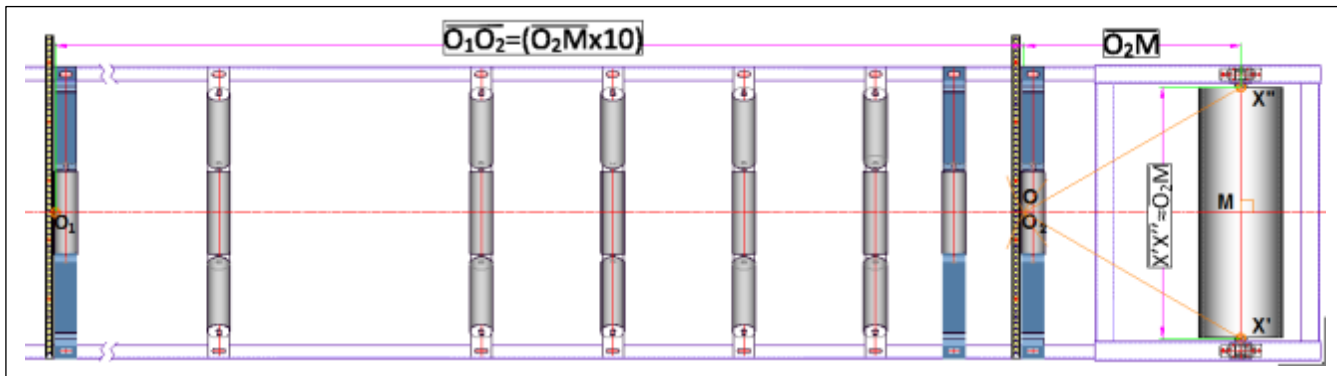

Figure 5.1: construction of the conveyor axis on an existing machine
The setting method relates to geometry in space and triangulation (see Figure 5.1).
- Locate the frame middle of conveyor, with mark O2, which will be the O vertex of the isosceles / equilateral triangle to be built. (see Figure 5.1)